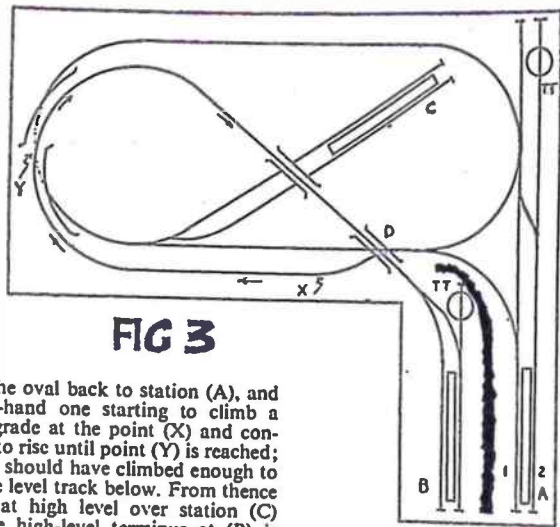

FIG 3
In Fig. 3 is shown a thorough-going layout of rather large dimensions which occupies two sides of the railway room, and is designed for use where permanent housing can be obtained for a model. The two main terminal stations (A) and (B) have no connection with each other except by way of the tracks which make up the running oval, and a hill, a wall, or some other scenery should be built up between them to maintain them in apparent isolation, as shown.
The inner box contains the secret of the trick. Study Fig. 2 carefully and make as follows. Drill a ½ in. hole in back and front panels 2½ ins. from ends. In one panel only, fix two small nails just below the hole and ½ in. apart. Place the nails firmly in the wood but not right through, then nip the heads off to leave them standing out about ½ in. Fig. 3 shows the exact position of the centre member of the sandwich, i.e., when assembled, and the two boxes are engaged. A clearance for the cord must be left. After shaping the centre member and locating its correct position, join the three pieces together with ½ in. escutcheon pins to form the sandwich as shown.
If the clock is to stand on a cabinet or sideboard, a strut should be cut and fitted to the back. Owing to the rounded shape of the palette it will be necessary to fit a crosspiece on the strut. Fig. 3 indicates how this may be done.